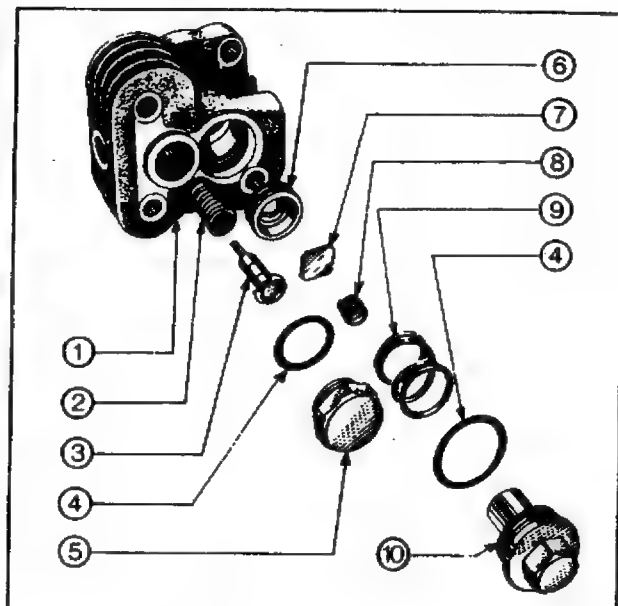

Fig. 6
3. Dismantle the cylinder head assembly (see Fig. 6) as follows:—
(d) Screw the delivery valve seat in position and replace the delivery valve and the delivery valve seat retaining spring in the cylinder head. Locate the valve retaining spring in the delivery valve nut. Use a new copper washer and refit the nut (see Fig. 6).